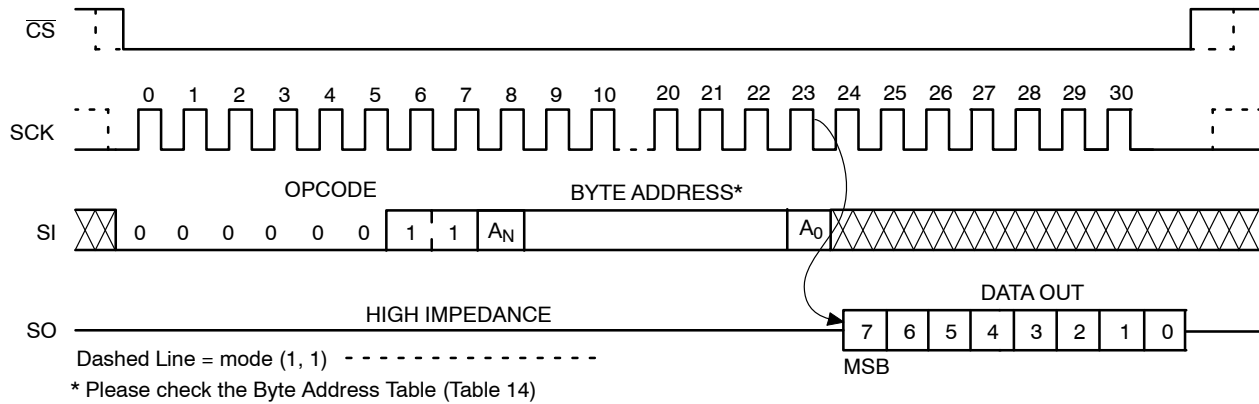

Figure 9. READ Timing
After receiving the last address bit, the CAT25128 will respond by shifting out data on the SO pin (as shown in Figure 9). Sequentially stored data can be read out by simply continuing to run the clock. The internal address pointer is automatically incremented to the next higher address as data is shifted out. After reaching the highest memory address, the address counter “rolls over” to the lowest memory address, and the read cycle can be continued indefinitely. The read operation is terminated by taking $\overline{CS}$ high.
Reading the additional 64-byte Identification Page (IP) is achieved using the same Read command sequence as used for Read from main memory array (Figure 9). **The IPL bit from the Status Register must be set (IPL = 1) before attempting to read from the IP.** The [A5:A0] are the address significant bits that point to the data byte shifted out on the SO pin. If the $\overline{CS}$ continues to be held low, the internal